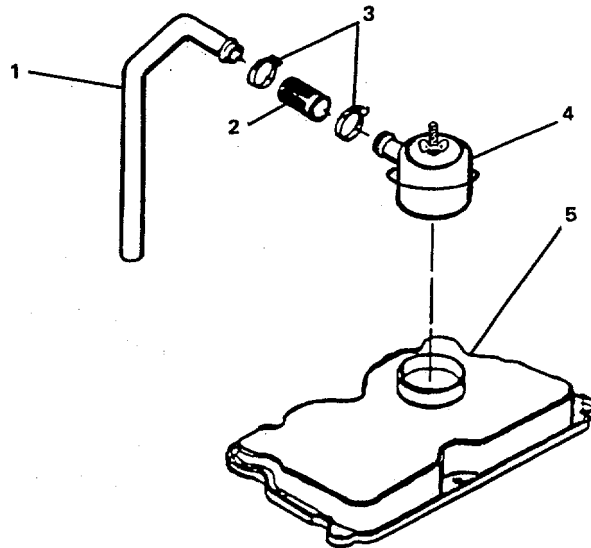

FIGURE 2-41. Crankcase Breather and Tube.
- l. Insert the crankcase breather (4, Figure 2-41) in the cover (5).
- m. Install the bent metallic tube (1) on the breather (4) with preformed hose (2) and clamps (3). Tighten clamps (3).